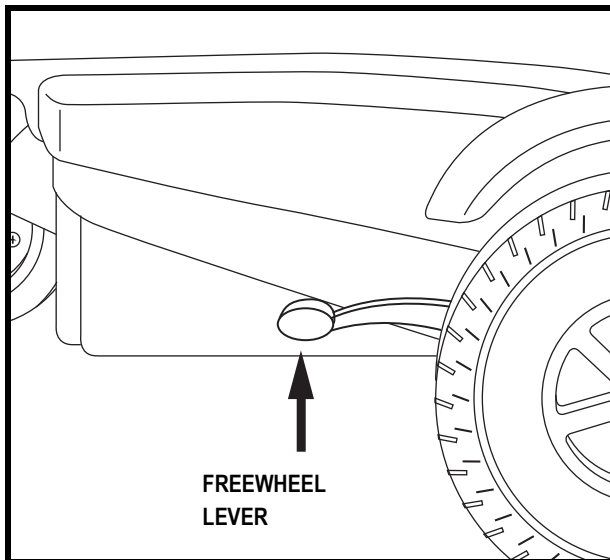

Figure 8. Drive Mode (Drive Engaged)
2. Pull both levers upward to engage the drive motors (drive mode). See figure 8.
2. Make sure that the power chair is in drive mode. See figure 8.